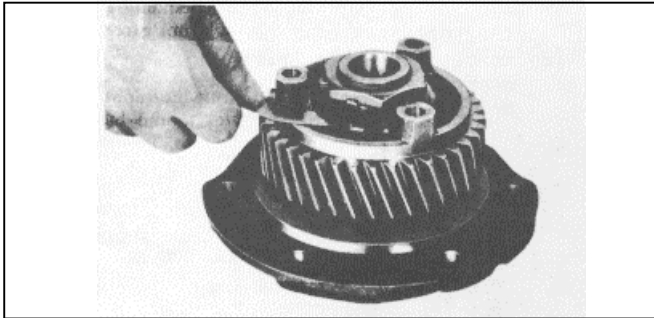

Fig. 3
- (1) With the blower drive support clamped in the soft jaws of a bench vise, position one of the blower drive thrust bearings on the support so that the tangs on the bearing register with the holes in the support.
- (2) Lubricate the hub of the support, the bushings in the gear, both thrust bearings and the blower drive gear support thrust washer with clean engine oil.
- (3) Slide the gear on the hub with the flat side of the gear down.
- (4) Install the second thrust bearing on the support with the tangs on the bearing facing up.
- (5) Position the blower drive support thrust washer on the support so that the slots in the thrust washer register with the tangs on the bearing.
- (6) Secure the gear on the support with a lock washer and nut. Tighten the nut to 50-60 ft/lb. (68-81 N.m) torque and bend the lugs on the lock washer against the flats on the nut to secure the nut.
- (7) Check the clearance between the blower drive gear support thrust washer and the blower drive gear thrust bearing as shown in Fig. 3. The clearance should be .005" to .010" with new parts and should not exceed .012" between worn parts.
- (8) If the spring plates were removed from the blower drive gear hub, attach the spring plates to the hub with three bolts, flat washers and lock washers. Tighten the bolts to 35-39 ft/lb. (47-53 N.m) torque.